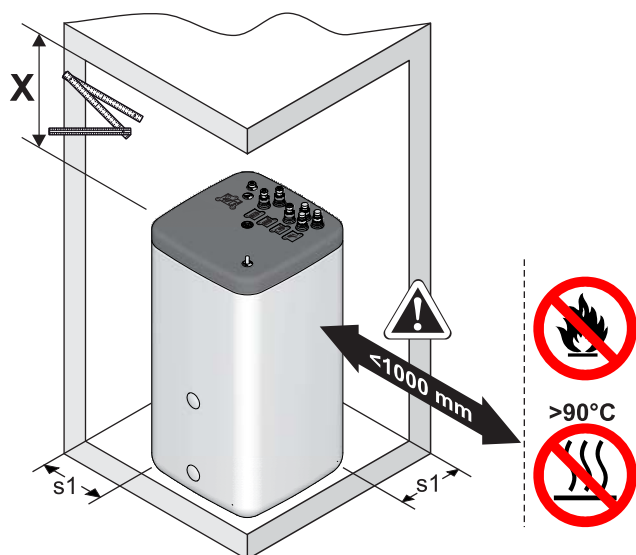

Fig. 4-2 Install hot water storage tank (shown on the EKHWP)
- Install the domestic hot water storage tank at the installation site. **Recommended distance** to the wall (s1): ≥ 200 mm (fig. 4-2).